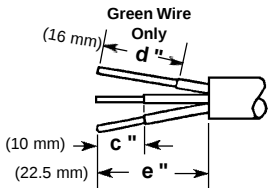

Fig. 1
- Strip cord jacket and conductor insulation as shown in Fig. 1. DO NOT TIN CONDUCTORS.